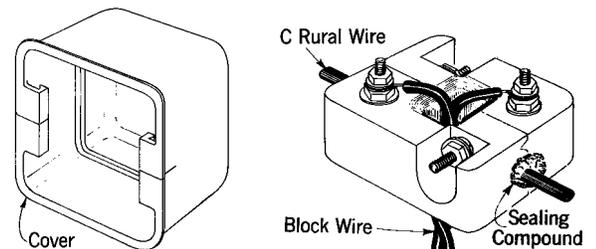

Fig. 2 - 107A2 Wire Terminal (Cover removed)
2.03 Strips of sealing compound are placed around the C Rural Wire where it enters each end of the terminal. A recess in the terminal block is provided for the sealing compound. The 107A2 Wire Terminal, with the cover removed and the blocks installed on a C Rural Wire, is shown in Fig. 2.